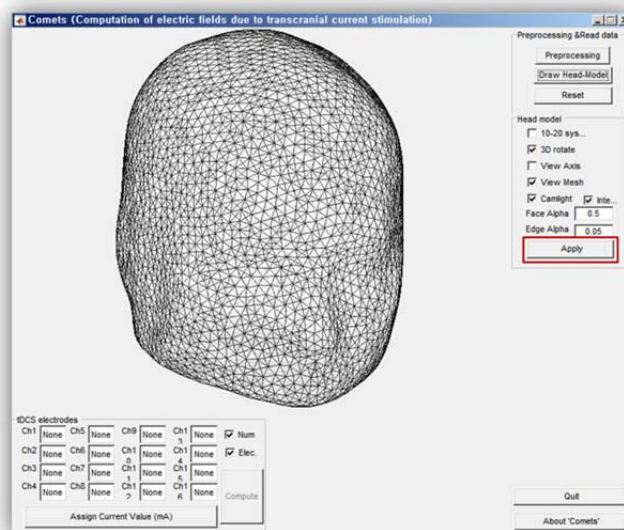

Fig. 3. Drawing of scalp in the main window.
- Extracted scalp surface from input files are shown in main panel as in Fig. 3.
- Press *Apply* button as indicated in Fig. 3. You can manipulate the view options in the *Head Model* box (green box in Fig 4).